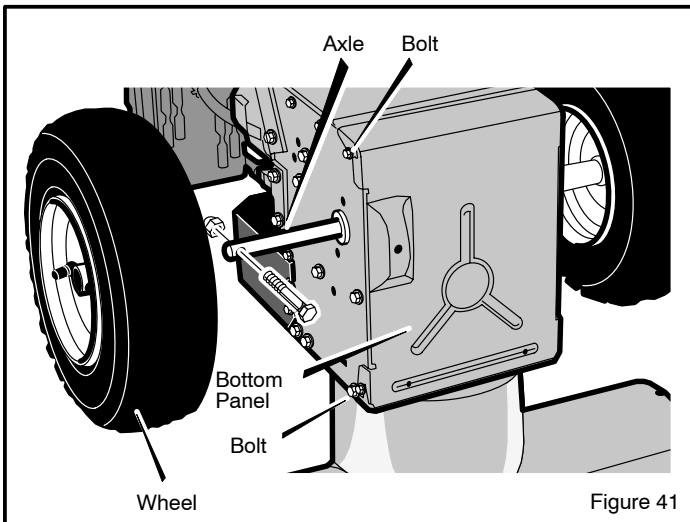

Figure 41
3. Remove the fasteners that secure the left **wheel**. Remove the **left wheel** from the **axle** (see Figure 41)
18. Install the **bottom panel** (see Figure 41).